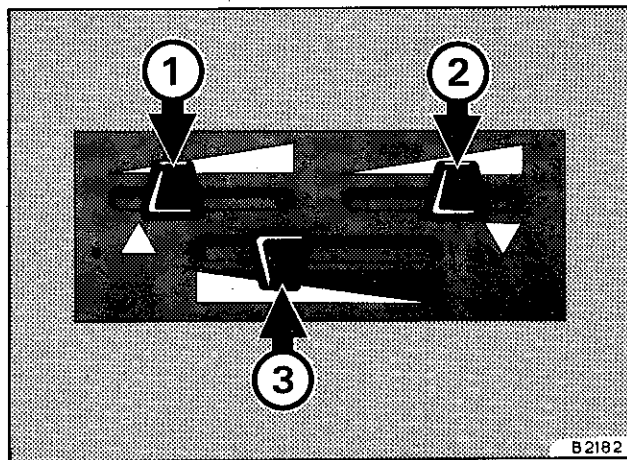

Fig. 3 *Heater-temperature and air controls*
Operate lever (1) Fig. 3 to the closed position.
Operate lever (2) Fig. 3 to the closed position.
Operate lever (3) Fig. 3 to the cool or OFF position.